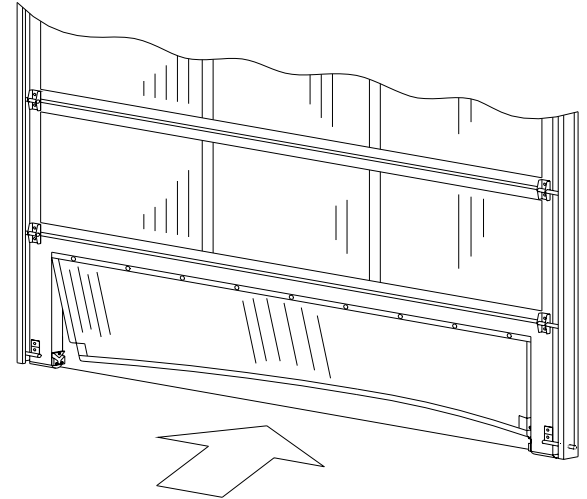

FIG. 5A
- Knock out Breakaway Panel (Figure 5a).